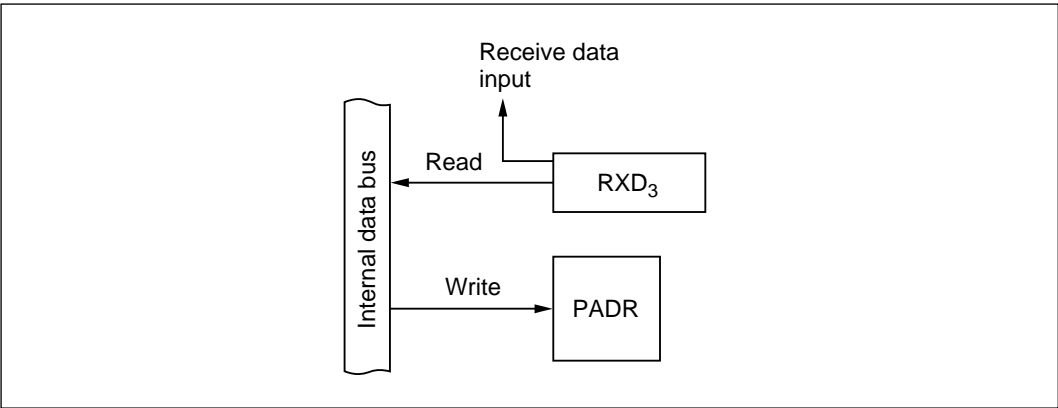

Figure 10-71 RXD₃ Input (Modes 1, 2, 4, 6, and 7)
(9) RXD₃ Input (PA₅: Modes 1, 2, 4, 6, and 7) (H8/539 Only): Figure 10-71 shows a block diagram illustrating the RXD₃ input function. Table 10-55 indicates register read/write data. When PA₅ is used for RXD₃ input, the value written in PADR is ignored, but PADR can be read to monitor the level at the RXD₃ pin.